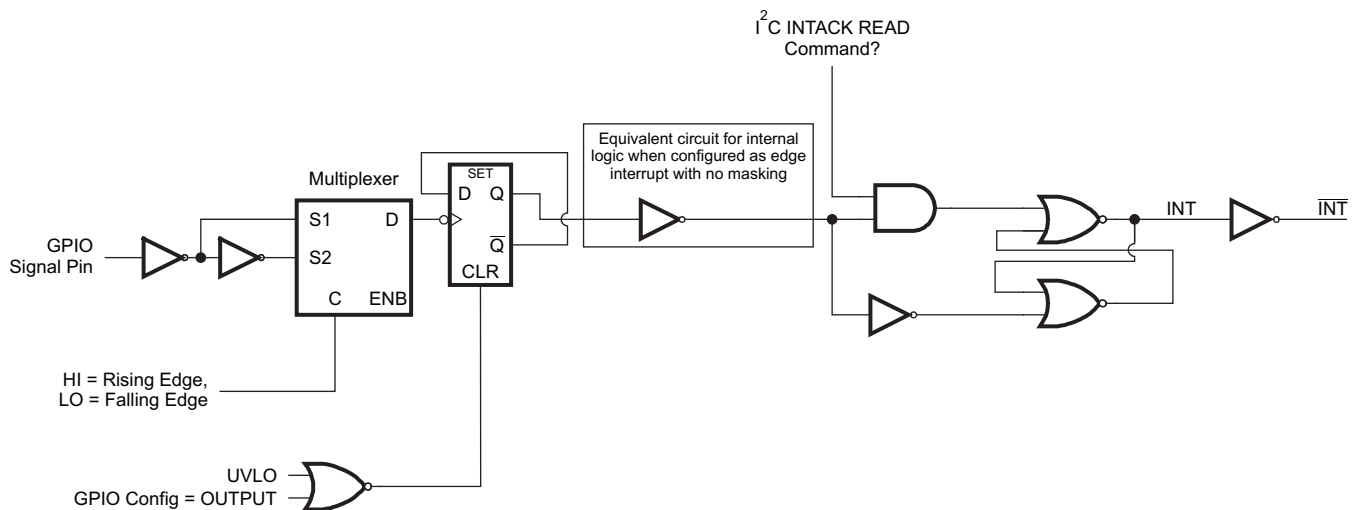

Figure 47. GPIO 1 or GPIO2 Configured as an Interrupt Request Input
See Figure 47 for a description of the logic used for GPIO1 and GPIO2 inputs when configured for edge-trigger interrupt generation. The signal from the GPIO pin input is double-latched before being sent to the interrupt controller logic. The inversion of the Q output from the first flip-flop must be HI to allow the output latch to be cleared when a READ command occurs. On the initial edge of the GPIO signal, the Q output of the flip-flop is set (HI). The $\overline{\text{INT}}$ line is asserted (LO) after the initial selected edge from the GPIO pin. On the next falling (or rising) edge of the GPIO pin, the interrupt can again be cleared (which allows the $\overline{\text{INT}}$ pin to go back high). The $\overline{\text{INT}}$ signal is cleared (set back HI) after an I²C READ operation is performed.